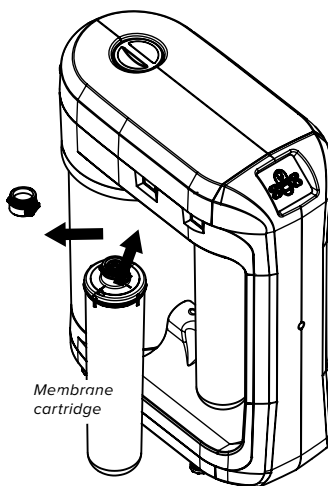

Fig. 14
- Remove the service plug from the slot of the reverse osmosis membrane unit and replace it with the membrane cartridge as shown in Fig. 14.